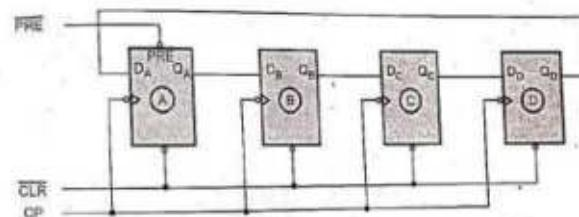

Fig. 5.10.1 Four-bit ring counter
- Fig. 5.10.1 shows the logic diagram for four-bit ring counter.
- Fig. 5.10.1 gives the timing sequence for a four-bit ring counter.